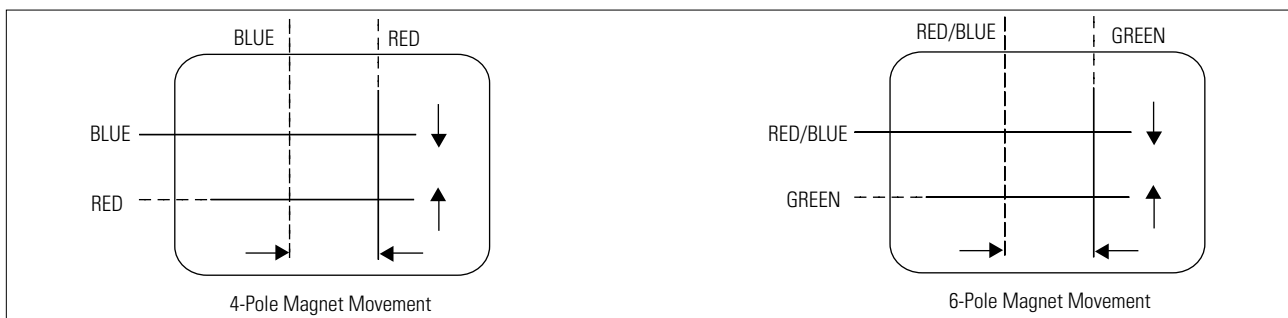

Fig 4-3 Center Convergence Adjustment
8. Since the 4-pole magnets and 6-pole magnets interact, the dot movement is complex (Fig. 4-3).